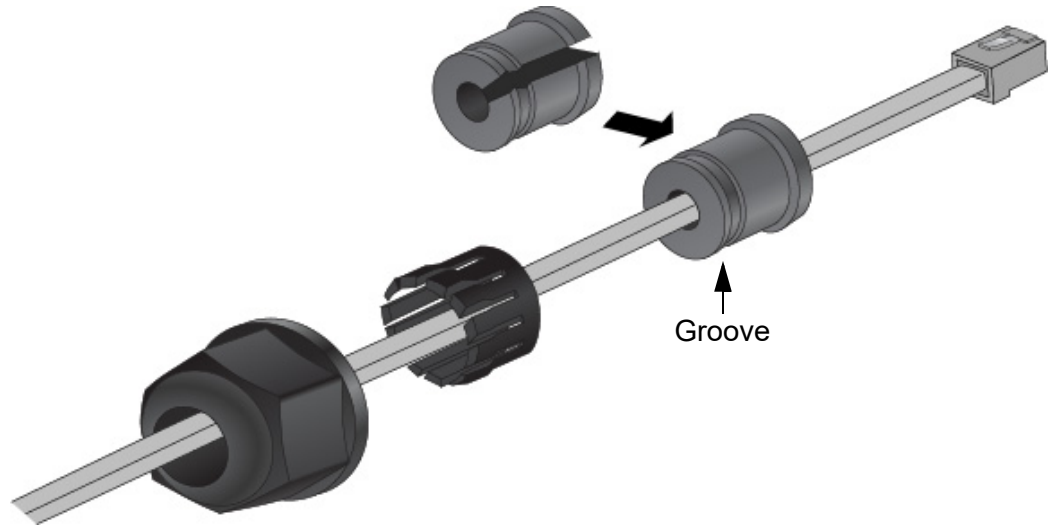

Figure 11. Installing the Sealing Insert
5. Open the sealing insert and slip it onto the Ethernet wire. The end with the groove needs to be towards the clamping claw. Refer to Figure 11.